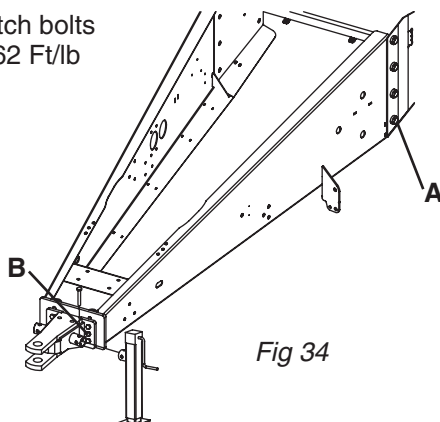

Fig 34
- 2 Tighten the chassis bolts (A Fig 34) - 554 Ft/lb (750 Nm)
- 3 Tighten the hitch bolts (B Fig 34) - 162 Ft/lb (220 Nm)